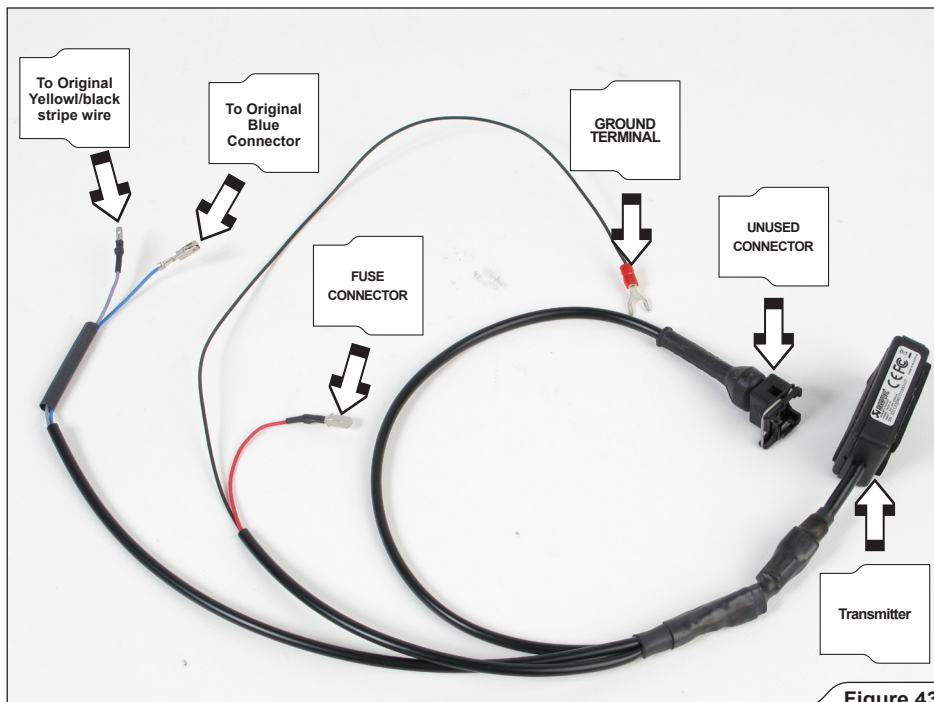

Figure 43
7. Transmitter with installation fittings: **red wire**-fuse box pin (power supply), **black wire**-ground terminal, **blue wire**-pin to original blue connector, **grey wire**-pin to original yellow wire with black stripe (Figure 43).